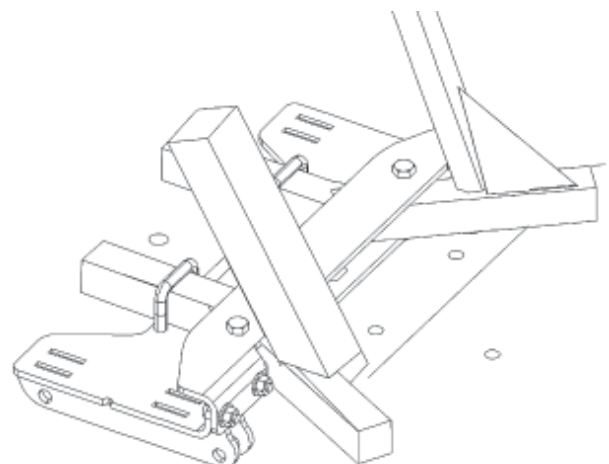

Figure 3 Assembled Plow Mount
7. Finally tighten the four 1/4" dia x 3/4" long bolts (B1) and 1/4" nylock nuts (B4) to a recommended torque of 7 ft-lb. The completed assembly should look like figure 3.